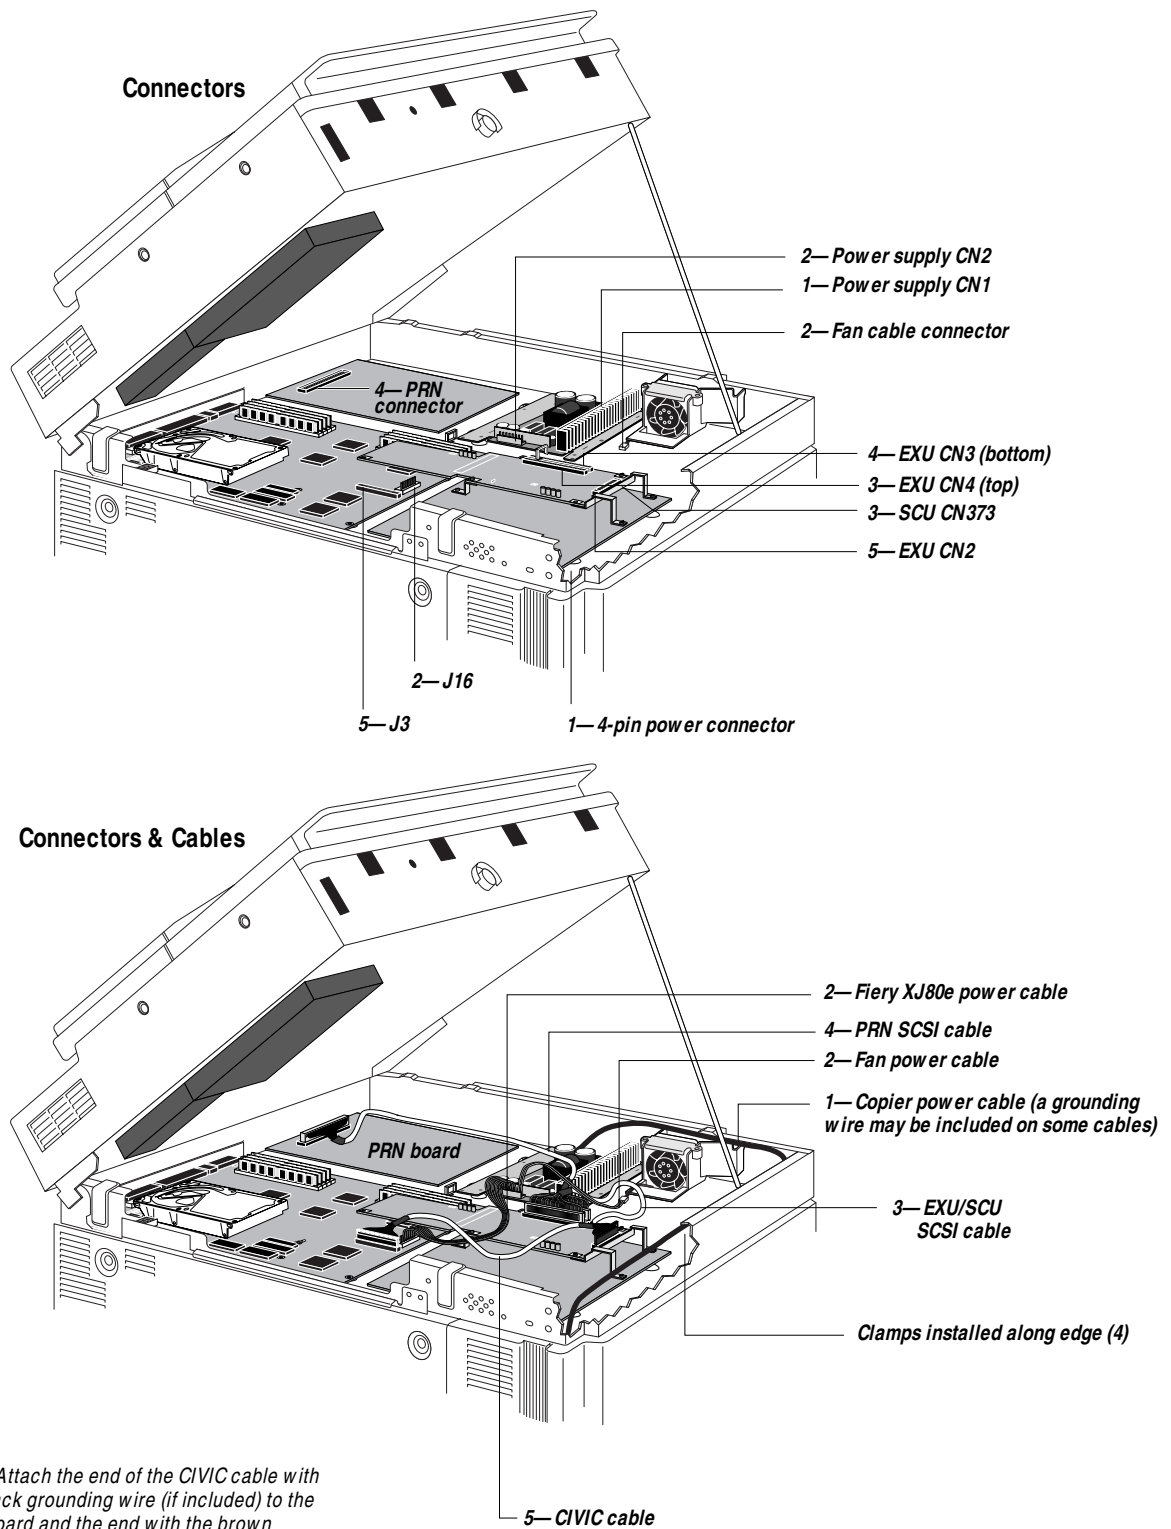

Figure 3-17 Cable connections and ground points
3. ***Install the 4 clamps into the holes at the front of the PRN box (see Figure 3-17 on page 3-21).***
4. ***Connect the cables as detailed in the following table and Figure 3-17 on page 3-21.***